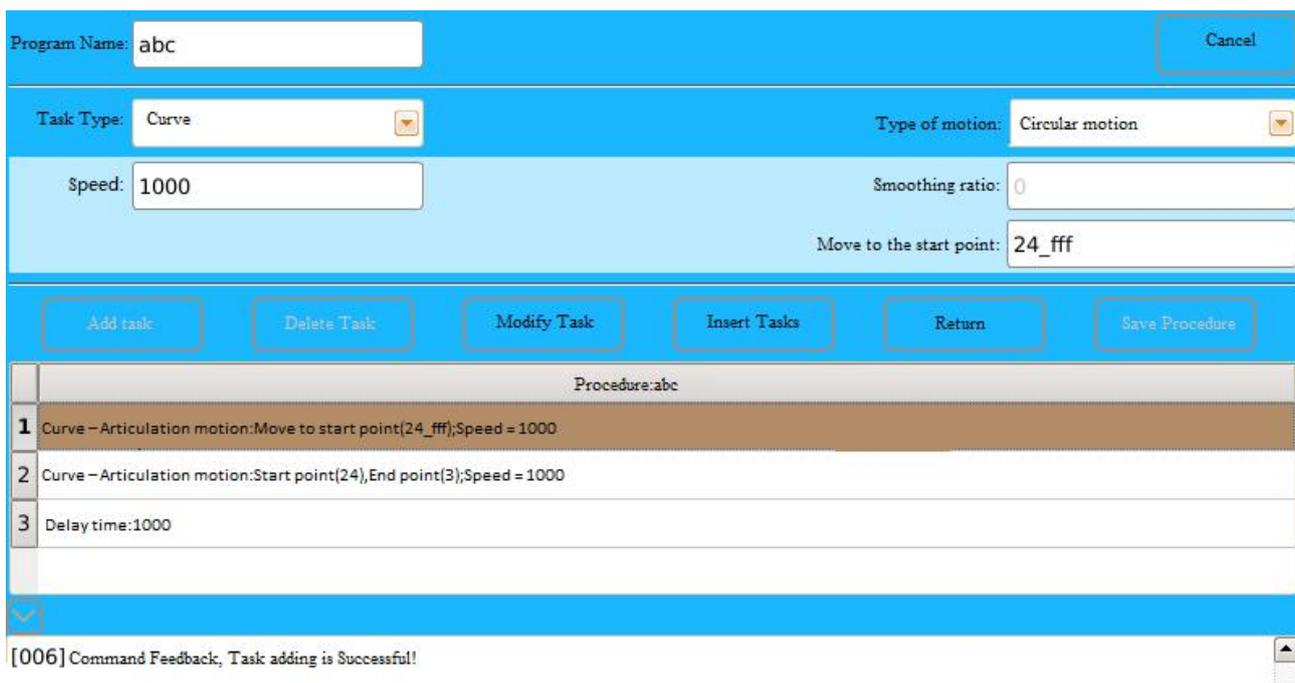

Figure 4.25. Management of “Basic Procedures” Creation Interface
(1) Check: This is used in conjunction with the “point” of the “change point”. When a “reference point” in the procedure has a change, it must be “check” to this procedure (other procedures refer to the “check” as required by other procedures), otherwise the motion path in the procedure will go wrong to raise an accident, and special attention is required.
(2) Save As: Select the “Procedure Name”, and click the “Save As” button to enter the “Basic procedure creation interface” of the selected “procedure”. If the “Procedure Name” is modified, you can copy the “procedure” again.
(3) Edit: Check the “edit” button to perform “delete” operation on the completed “procedure”.
(4) Details: This is a major part of the “procedure management”. Click the “Details” button to return to the “Basic procedure creation” interface to conduct “delete”, “Modify” and “insert in” operation on the selected “procedure”, as shown in following Figure 4.25.